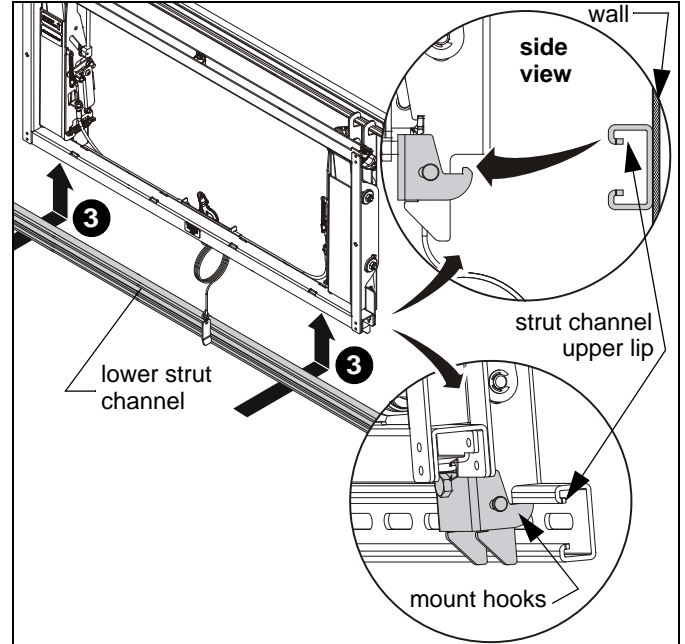

Figure 10
3. **LVXSU only:** Add lower strut channel to bottom of all mounts in row by lifting strut channel up from below mounts and setting upper lip of strut channel onto mounts' latching hooks. (See Figure 10)